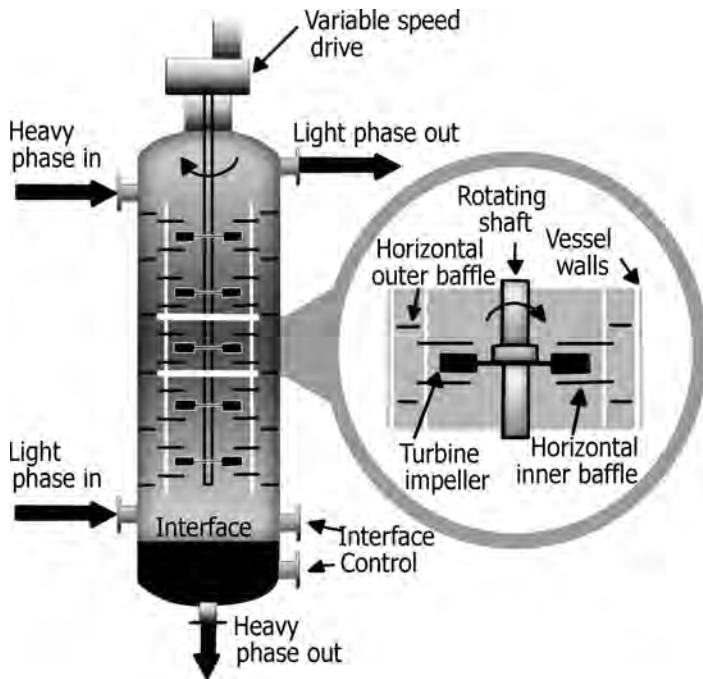

FIGURE 17.57 Scheibel column.
- Figure 17.57 illustrates Scheibel extraction column.